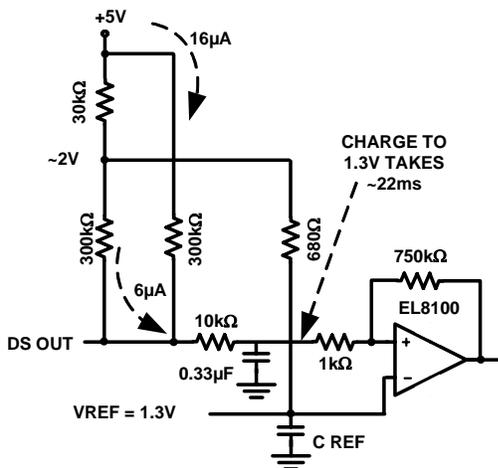

FIGURE 5. NON-VIDEO DELAY CIRCUITRY
The incoming video may come from a cable source with standard, double or no termination. This will cause the HSYNC tip to change from 286mV to double or reduce to 2/3. The back porch is always at 0V, so it is the most stable reference point. The back porch pulse is from the sync separator to the DC restore to set the back porch to 1.3V. The 1.3V allows the sync double level of 572mV times an amplifier gain of 2 to have a 1.14V HSYNC tip and 160mV above ground so not to induce clipping. The black level can be 54mV x 2 for no termination and x 2 for amp gain to give 216mV. The video from the amp output is internally connected to the Data Slicer (DS) inverting input. The data slice detector can have the DS Ref set to approximately 250mV. If the EL4501 amp gain is 1, the DS REF can be approximately 145mV. Figure 5 is for an amplifier gain of 1.